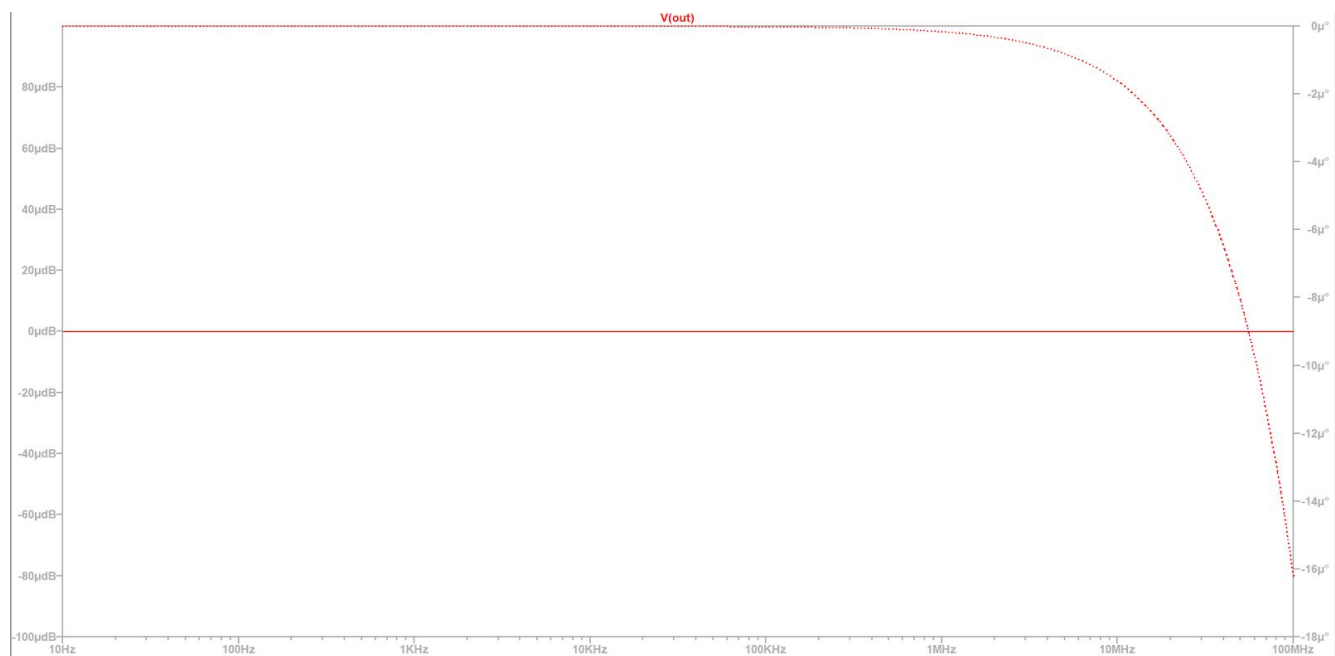

**Fig.16:frequency response of Non-inverting configuration with  $R_2=449\text{ k}$  and  $R_1=1\text{K}$  And input signal amplitude = 10 mV**
11. Fig.16 shows the maximum gain achievable for the circuit as the output got clipped.